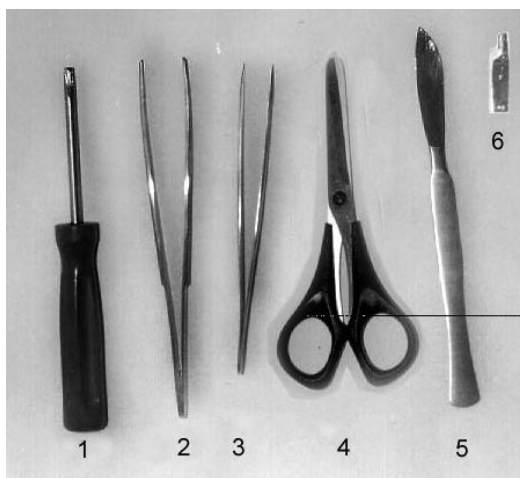

**Fig. 18**
- a) with bias voltage contact strip for STM-study of thick samples (Fig. 18),